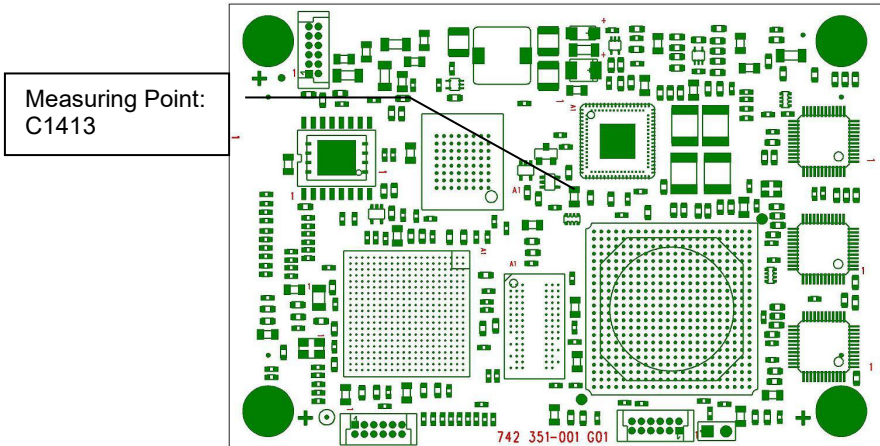

Figure 4-1: EES 25 and EES 20 – Temperature Measuring Point C1413
**Note:** The items marked with "#1" corresponds to temperature measurement point C1413 (see Fig. 4-1)